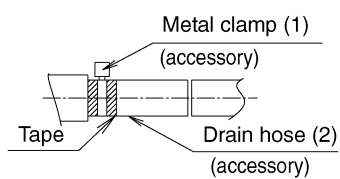

Fig. 11
- Use the drain hose (2) and the metal clamp (1). Insert the drain hose (2) fully into the drain pipe connection hole and firmly tighten the metal clamp (1) with the upper part of the tape on the hose end. Tighten the metal clamp (1) until the screw head is less than 4 mm from the hose. (Refer to Fig. 11, 12)